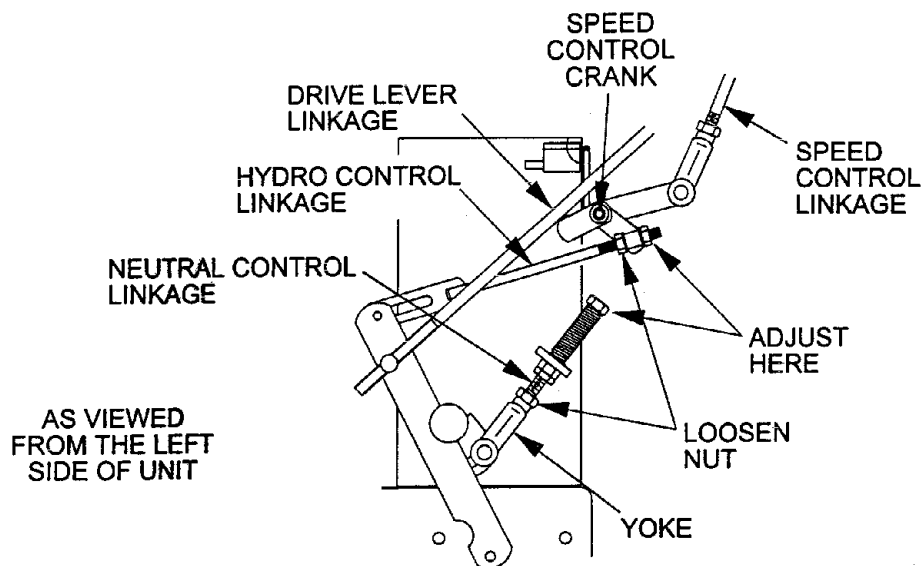
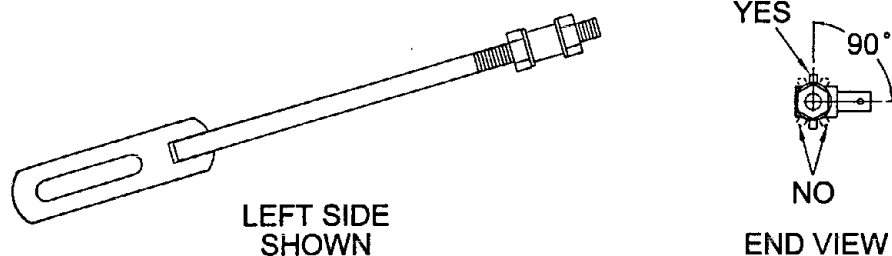

FIG. 16
FIG. 17
1. Move the speed control lever (located on the console) to the full forward position and check the orientation of the tabs on the ends of the speed control crank (fig. 16). These tabs should be pointing straight down at the 6 o'clock position or slightly forward. Adjust the threaded yoke at the bottom of the speed control link until the tabs are positioned correctly.
4. Loosen the nut against the neutral control linkage yoke as shown in Figure 16.
2. Loosen the front nut on left hydro control linkage as shown in Figure 16. Turn the rear control linkage adjusting nut counter-clockwise until wheel rotates forward. Turn the rear nut of left control linkage clockwise 1/6 of a turn at a time, stopping to move the speed control forward and back to neutral, until left wheel stops rotating forward. Turn the rear nut an additional 1/2 turn and tighten the front nut making sure not to put a bind on the linkage. Make sure flat part of linkage is perpendicular to pin part of swivel. See Fig. 17.